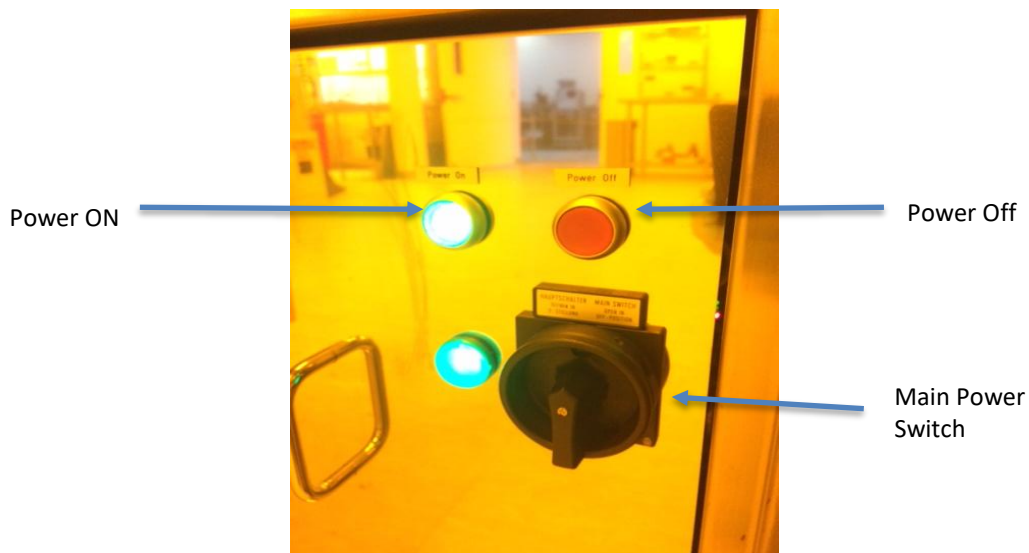

Figure 2: Power Switch Panel
4. Push the power off button. See Figure 2.
5. Turn off the main power switch. See Figure 2.
1. Turn on the main power switch. See Figure 2.
2. Push the power on button. See Figure 2.